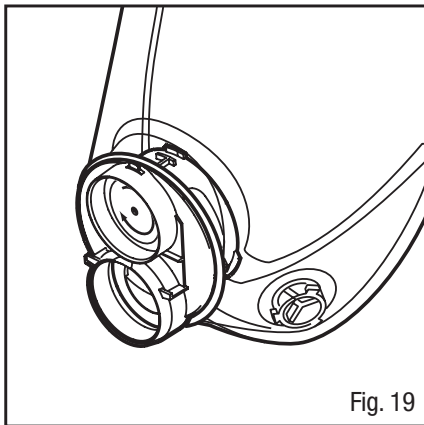

Fig. 19
4. Place new 6889 over the exhalation port and push or press valve stem into center hole. Be certain the valve is fully seated and spins freely in mount (Fig. 19).